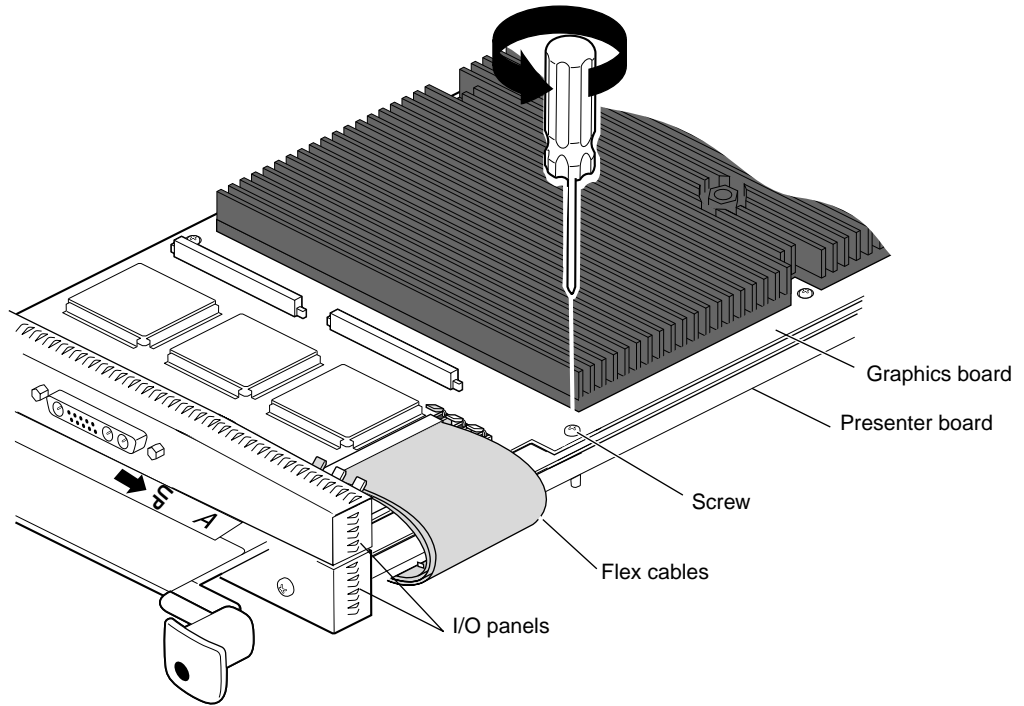

Figure 1-16 Removing the Screw From the Graphics Board
2. To install the flex cable guard you must first remove the screw from the graphics board as shown in Figure 1-16.